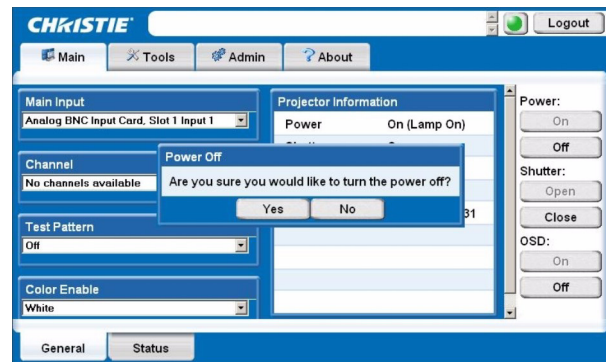

FIGURE 2-17 - POWERING DOWN/WEB USER INTERFACE
*NOTE: A window will display for confirmation on powering down, see Figure 2-17.*